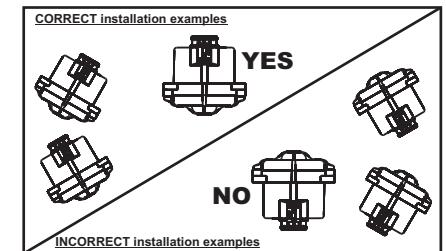

Fig.2
- Face the siren speaker downward so as to avoid water damage (Fig.2).